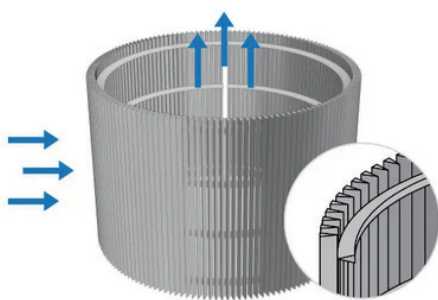
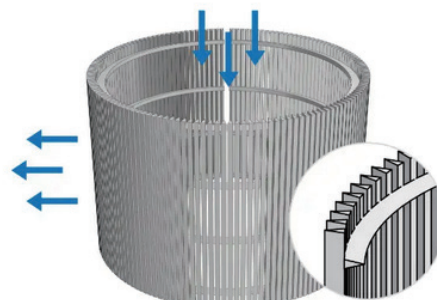

Figure 3-1 Axial External – FOTI
Figure 3-2 Axial External – FITO
- Axial external wedge wire screen tube or cylinder is rolled from flat wedge wire screen panels and is composed of radial support profile wires and axial surface screen profile wires, which are axial outside the support wire. Because of the flat side of surface screen Vee wires on the outside of the screen, the flow direction of this type is commonly from outside to inside (FOTI), shown as figure 3-1. We can produce specially designed wedge wire tubes, which the flow direction is from inside to outside (FITO), shown as figure 3-2..